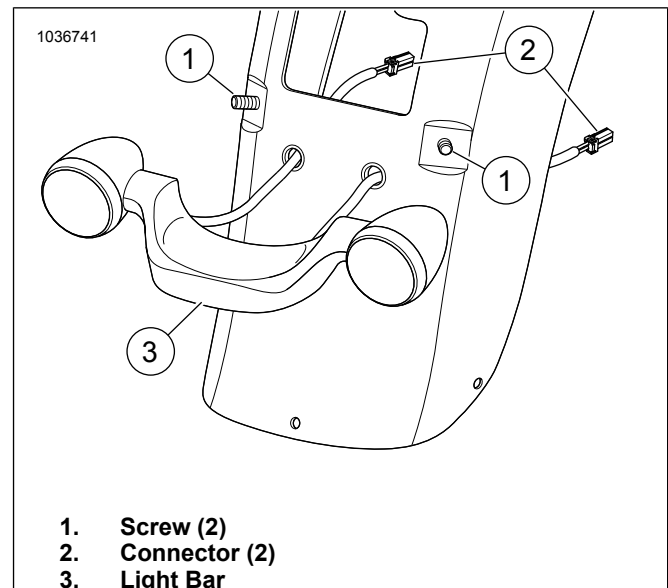
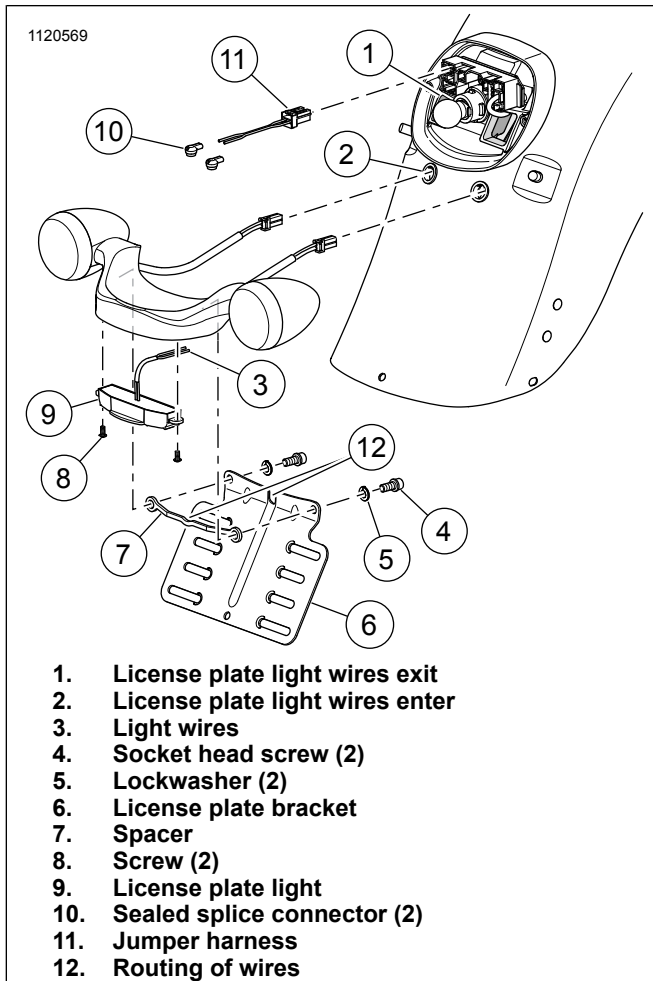

Figure 2. Incandescent Light Bar
Figure 3. License Plate and Light
2. See Figure 2. Remove screws (1).
3. Disconnect connectors (2).
4. Remove light bar (3).
See Figure 3. Position spacer (7) and license plate bracket (6) onto light bar.
2. Install lockwashers (5) and socket head screws (4). Tighten.
3. Route (12) license plate light wires (3) over hump in spacer (7) and license plate bracket (6).
4. See Figure 3. Install license plate light (9).
5. Install screws (8). Tighten.
6. See Figure 2. Position light bar (3) on fender.
- a. Route harness ends through fender and connect connectors (2).
- b. See Figure 3. Route license plate light wires (2).
8. See Figure 2. Install screws (1). Tighten.
9. See Figure 3. Route license plate wires behind fender and exit wires (1) through tail lamp.